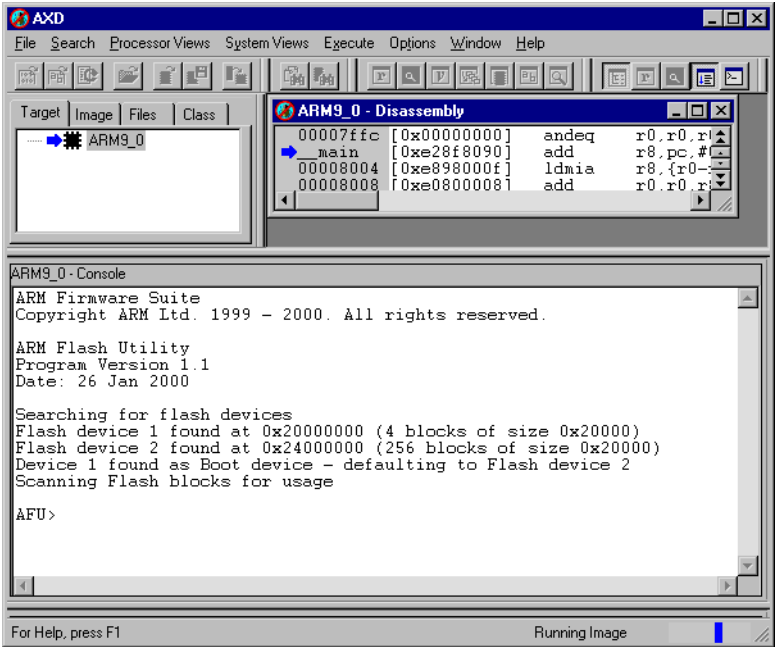

Figure 3-9 ARM Flash Utility
- The flash utility runs and displays a prompt (see Figure 3-9).